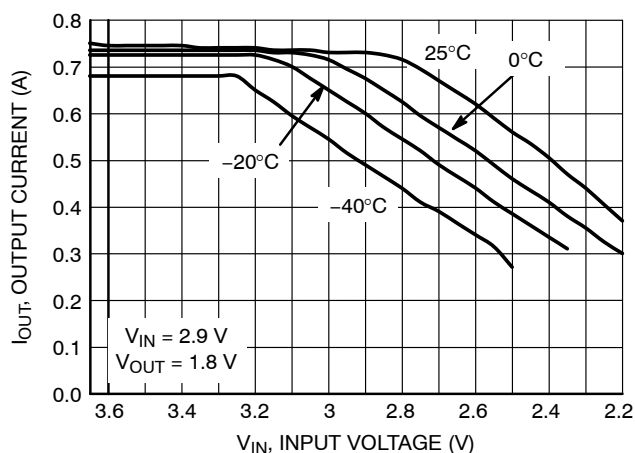

Figure 17. Output Current Capability for the 1.8 V Version
18. For output current capability for $T_A < 0^\circ\text{C}$, please refer to Figures 17 and 18.